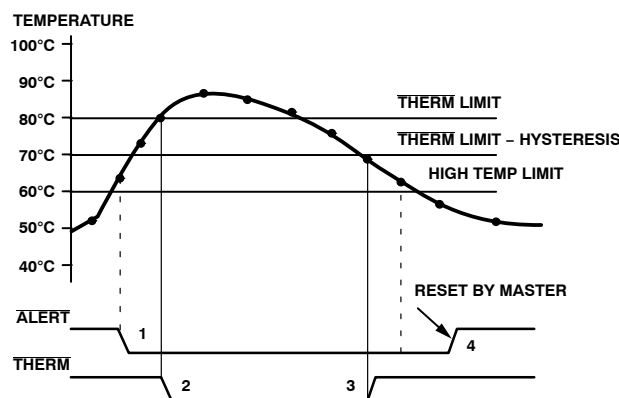

Figure 19. Operation of the $\overline{\text{ALERT}}$ and $\overline{\text{THERM}}$ Interrupts
Figure 19 shows how the $\overline{\text{THERM}}$ and $\overline{\text{ALERT}}$ outputs operate. A user may wish to use the $\overline{\text{ALERT}}$ output as a $\overline{\text{SMBALERT}}$ to signal to the host via the SMBus that the temperature has risen. The user could use the $\overline{\text{THERM}}$ output to turn on a fan to cool the system, if the temperature continues to increase. This method would ensure that there is a fail-safe mechanism to cool the system, without the need for host intervention.
- The $\overline{\text{THERM}}$ output de-asserts (goes high) when the temperature falls to $\overline{\text{THERM}}$ limit minus hysteresis. In Figure 19, the default hysteresis value of 10°C is shown.